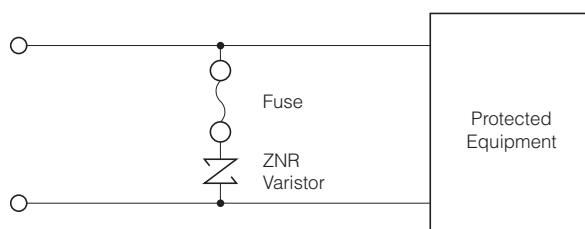

Fig. 2 Alternative Fuse Location/placement
2.3.1 When a line current of equipment is higher than the recommended current rating of the fuse in Table 2, the location of the fuse shall be arranged according to Fig 2.